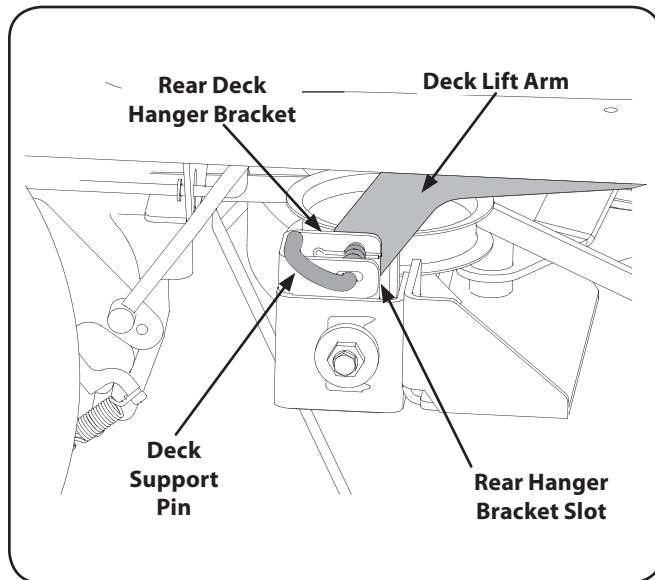

Figure 7-6
6. Locate the LH and RH deck support pins on each side of the deck. Pull the deck support pins outward and lock in the disengaged position to release the deck from the tractor's LH and RH deck lift arms. Refer to Fig. 7-6.
7. Raise the deck lift arms out of the rear hanger bracket slots by raising the deck lift handle on the tractor to its highest position. Refer to Fig. 7-6.